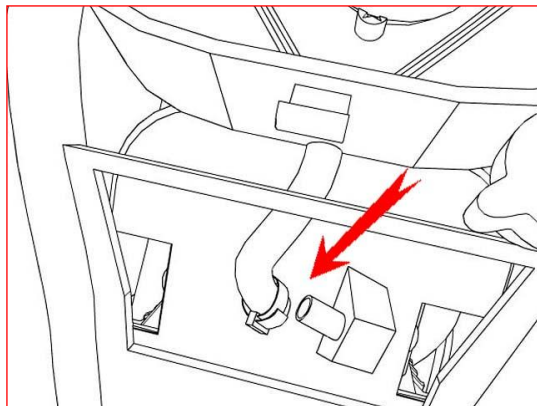

Figure 4
4. **Loosen and remove the rear cylinder crankcase breather hose at the head cover. (see figure 4)**